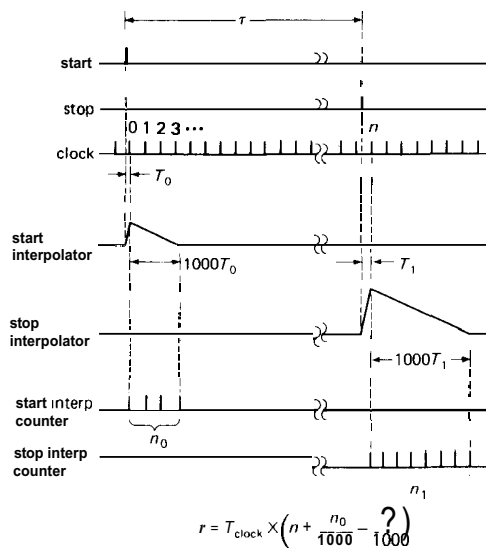

Figure 15.32. Linear interpolation (time-interval measurement).
- **Linear interpolation.** Suppose you wish to measure the time interval between the start and stop pulses in Figure 15.32. You begin by measuring the number of